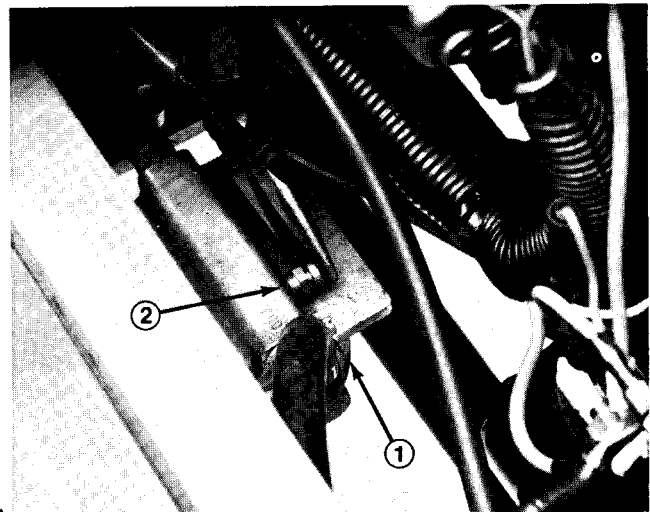

Figure 56a
2. Loosen the air bleed screw on the fuel filter / water separator (Fig. 56a).